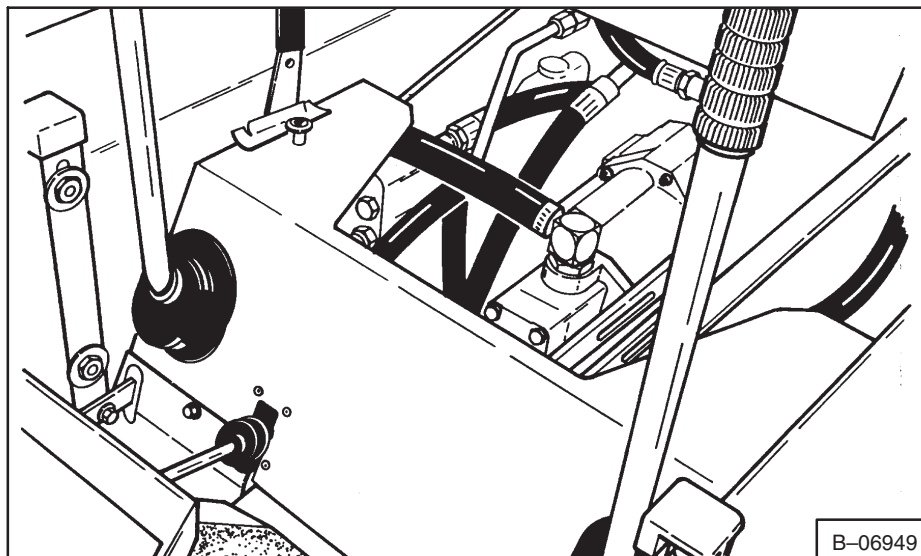

Fig. 2-7 Removing Front Panel
3. Remove the front cover (Fig. 2-7).